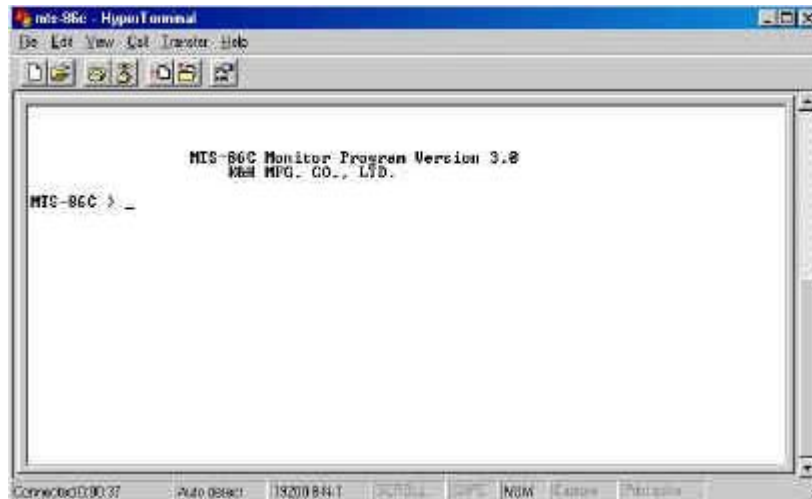

Fig. 1.15 Pressing any key from A-Z in MTS-86C trainer establish connection.
- f) Press "RESET" button on MTS-86C and then press any key among "A~F". The following message will be shown on "Hyper Terminal", which means that connection is established through RS-232 cable. (Fig. 1.15)